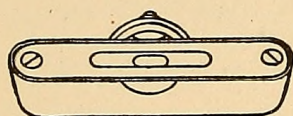

FIG. 37. — Pocket Level.
**Pocket Level** (Fig. 37) is handy for getting approximate levels and is cheap enough so every boy can own one.